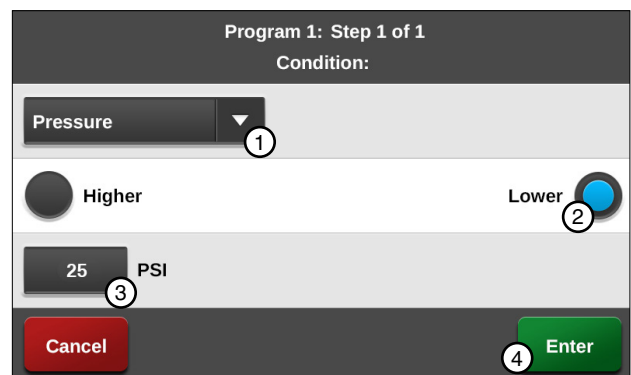

Figure 117-2 1. Pressure Command 3. PSI
3. Program the pressure condition for this step. Refer to Figure 117-2.